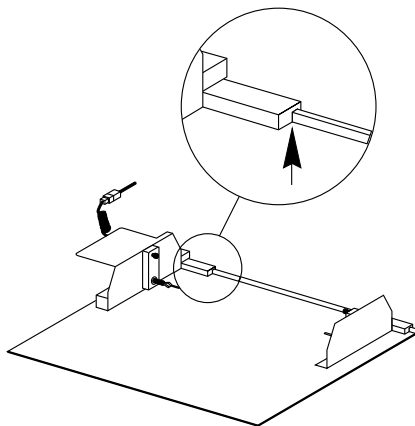

Figure 3 - Mounting the Sample Rotation
4. Mount the motor assembly onto the small rail at the back of the sample tray. The rail fits into the groove on the block at the bottom of the assembly (Figure 3).